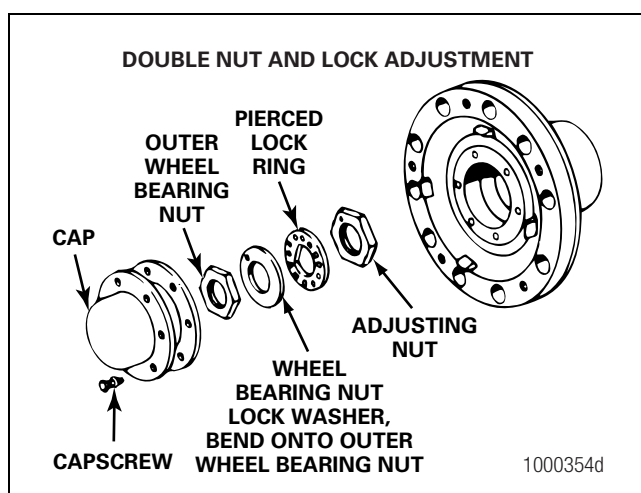

Figure 7.2
7. **On double nut and lock fasteners:** Bend the lock washer off the wheel bearing nut. Remove the wheel bearing nut, the lock washer and the pierced lock ring. Figure 7.2.
- If the end play is to specification: Bend the washer to at least one flat edge of the outer wheel bearing nut. Figure 7.2.